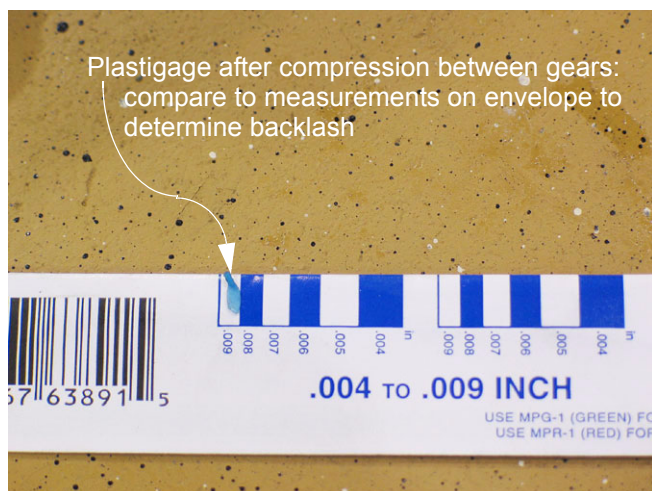

Figure 9.53
- 9.53. Add or remove shims from beneath the differential as necessary to obtain backlash of $.009" \pm .004"$ (.229 mm \pm .102mm). Repeat the measurement after each change to confirm the results. See Figure 9.53.